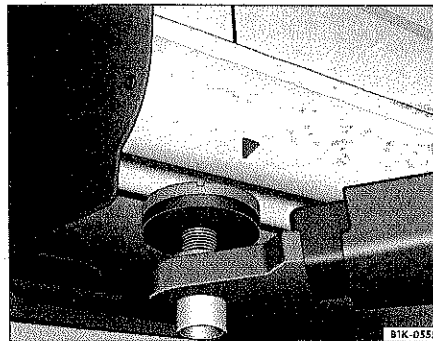
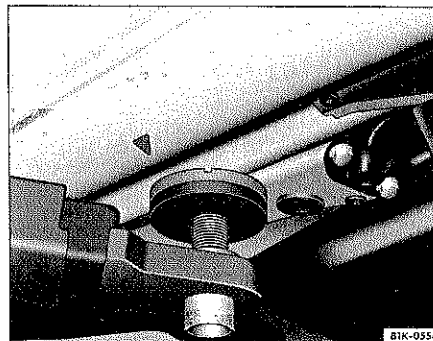

Fig. 54 Front lift point for workshop lift or floor jack.
Fig. 55 Rear lift point for workshop lift or floor jack.
Your vehicle may only be lifted by a floor jack or workshop lift using the lift points shown ⇒ fig. 54 and ⇒ fig. 55. Lifting the vehicle from a point other than that shown above can result in serious damage to the vehicle ⇒ ① and cause serious personal injury ⇒ ⚠.
- Always lift your vehicle only at the designated lift points shown in the illustrations ⇒ fig. 54 and ⇒ fig. 55. Not using the designated lift points can cause the vehicle to fall off the floor jack when heavy parts such as the engine or transmission are removed.